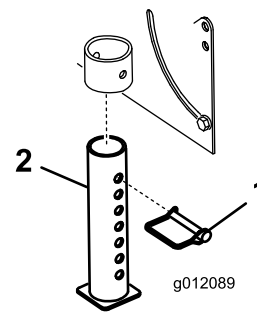

Figure 3
1. Remove the snapper pin securing the stand to the tube on the blower frame (Figure 3).
2. Lower the stand. Install the pin through the upper set of holes in the stand and tube (Figure 3). Secure the pin.